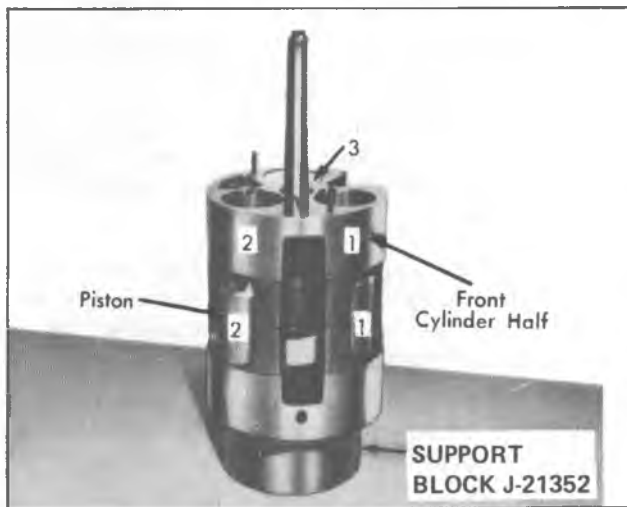

Fig. 30--Numbering Piston and Cylinder Bores
2. Identify by pencil mark, or some other suitable means, each piston numbering them as 1, 2, and 3 (Fig. 30).